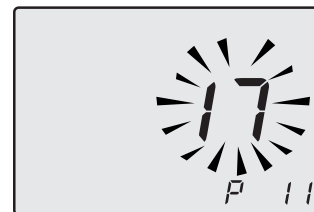

Fig. 7.26
- Scroll the various parameters using keys 15 or 16 until the letters **P11** are displayed on the LCD display, indicating that "parameter 11" (Fig. 7.26) has been activated.